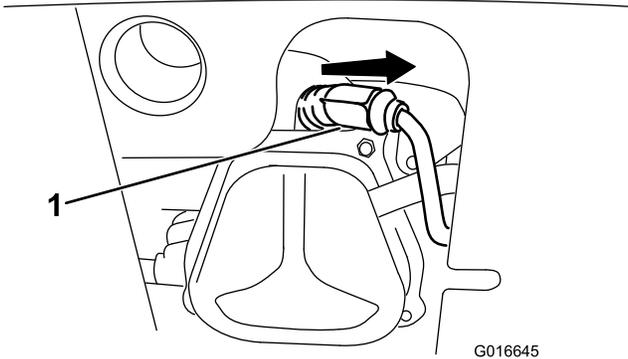

Figure 56
1. Remove the boot (Figure 56).